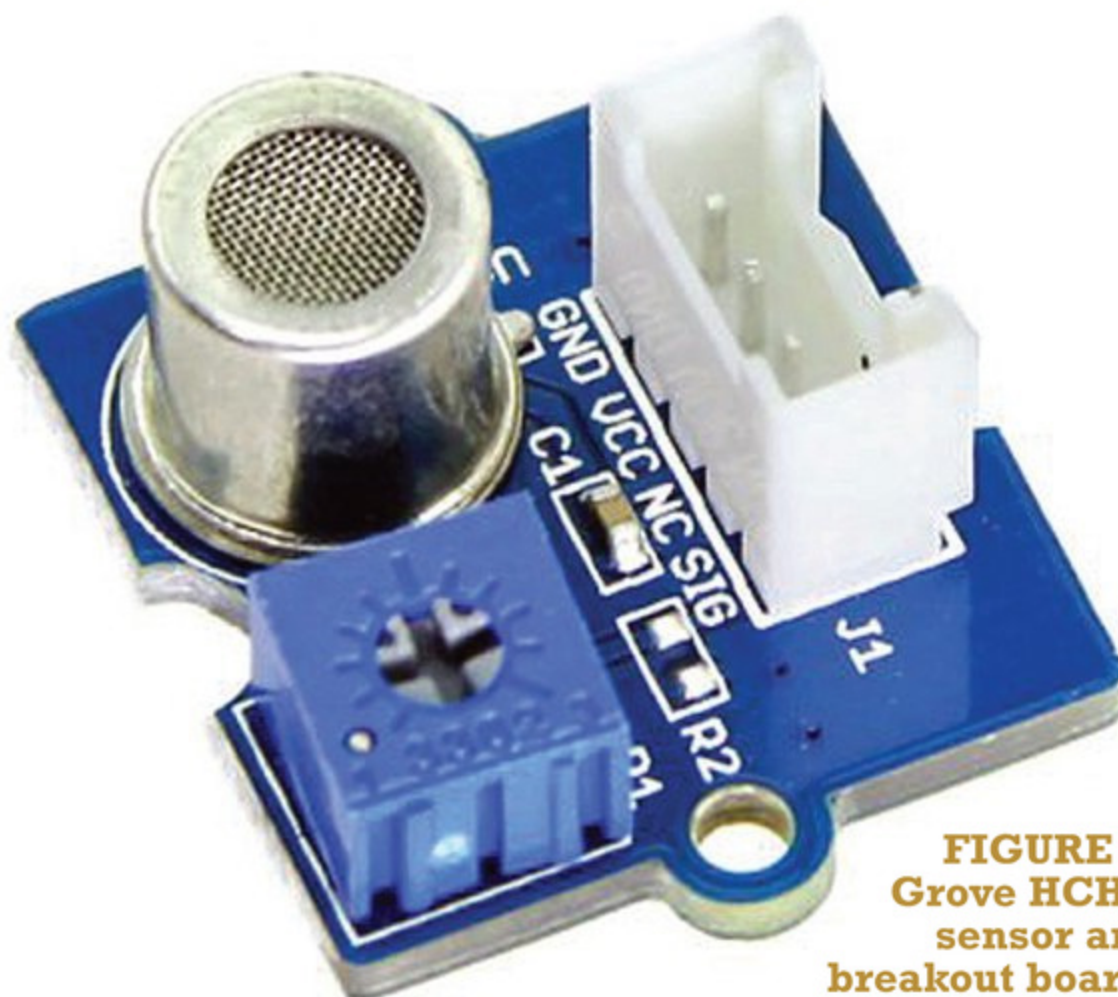

FIGURE 2.
- Sensor Chosen: GROVE HCHO 1-50 PPM Grove gas sensor board (see **Figure 2**).